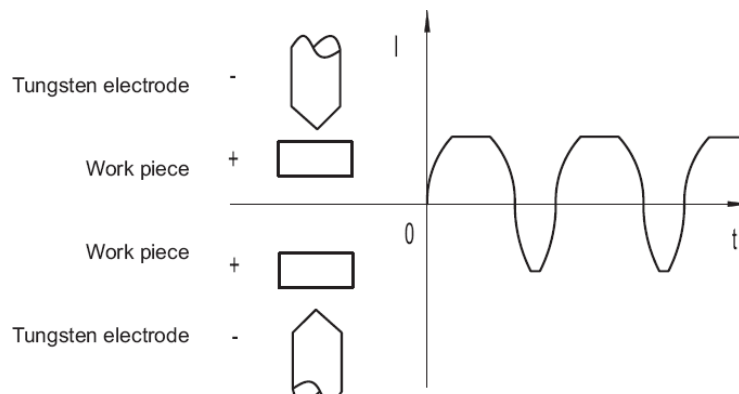

Fig. 5-3-11: Irregular square wave
**Irregular square wave:** Stronger arc with slow zero crosses and lose noise; the strongest arc and deep penetration, less noise. (Fig. 5-3-11)